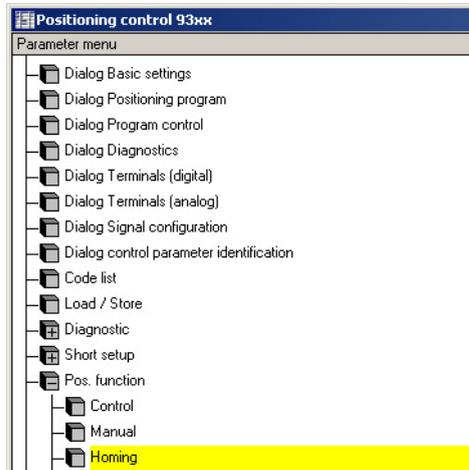

Fig. 6.13-1 "Homing" menu in the parameter menu
2. Activate "Manual operation" (1).
- A Click "Start" (8) to enable the controller.
- If "Ok" is displayed in the "Drive diagnostics" field (5), enable can be executed.
- B Click "Stop" (7) to inhibit the controller.
- After the homing has been completed successfully, "Reference ok" (3) is displayed, and X5/A4 is set to HIGH.
- A Activate "Manual homing" (2).
- The drive traverses with the homing parameters set. (Fig. 6.13-1)
- B Deactivate "Manual homing" (2).
- A Click "On" (4).
- B Click "Off" (5).